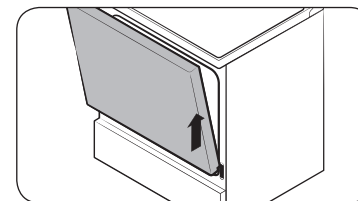

Fig. 2
5. Lift door up and out until the hinge arm is clear of the slot (Fig. 2).